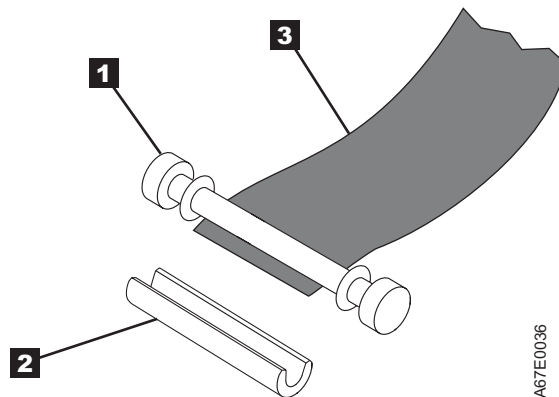

Figure 4-14. Removing the C-clip from the leader pin. Use your fingers to push the C-clip from the leader pin.
5. On the leader pin ( **1** in Figure 4-14), locate the open side of the C-clip ( **2** ). The C-clip is a small black part that secures the tape ( **3** ) to the pin.